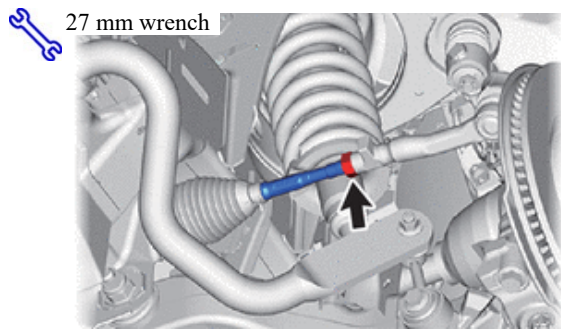

Fig. 7-11
(1) Repeat for the opposite side (Fig. 7-11).